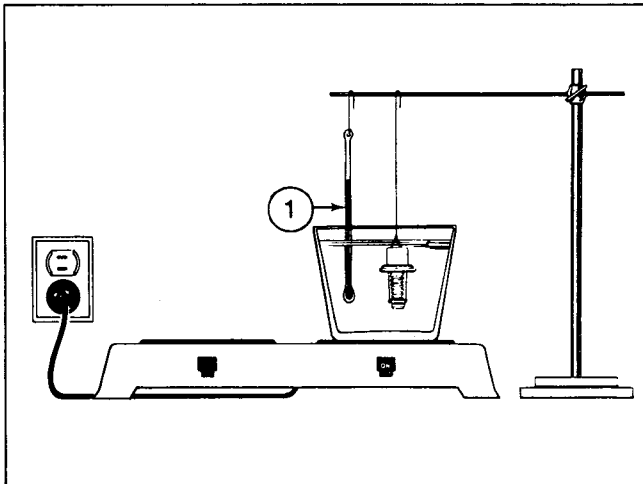

Fig. 8-25, (N10897). Testing thermostats
- a. Immerse thermostat and thermometer in a container of water as shown in Fig. 8-25.